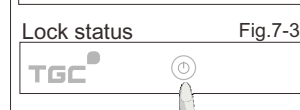

Fig.7-3
(1)In the lock status, press the ON/OFF button 3 seconds. (Fig.7-3)